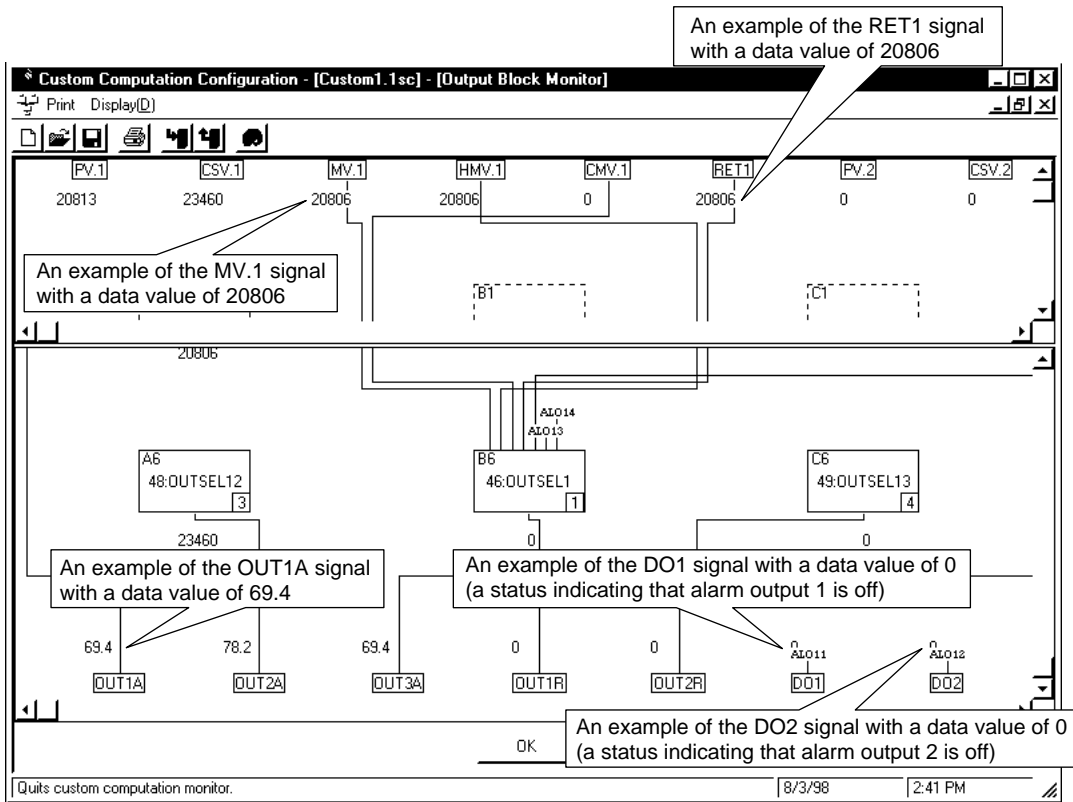

Figure 11.3.2 Example of [Output Block Monitor] View
In the [Output Block Monitor] view (Figure 11.3.2), you can monitor the signals listed in the following table.
- ③ The [Output Block Monitor] view (Figure 11.3.2) appears.
- ① Double-click the computation module in the [Output Block Monitor] view (Figure 11.3.2). The [Module Monitor] (Figure 11.3.3) view appears.